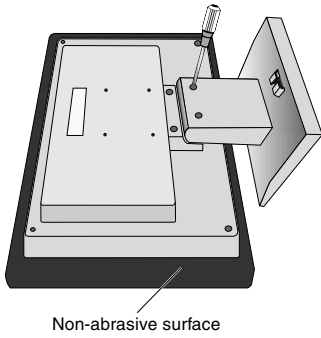

Figure R.1
2. Place monitor face down on a non-abrasive surface (**Figure R.1**).
3. Remove the 2 screws connecting the monitor to the stand and lift off the stand (**Figure R.1**).
1. Place monitor face down on a non-abrasive surface (**Figure R.1**).